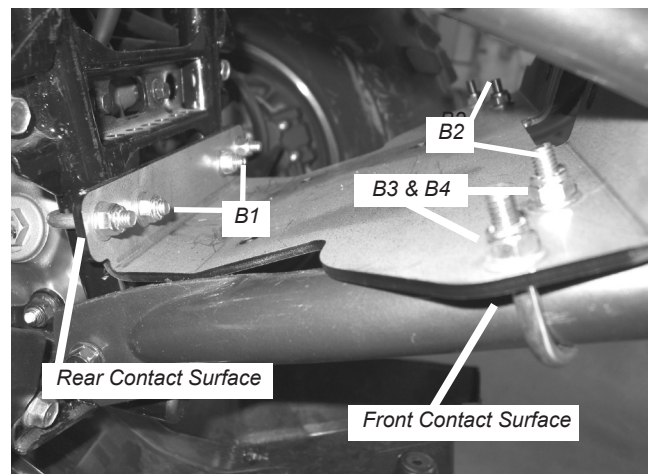
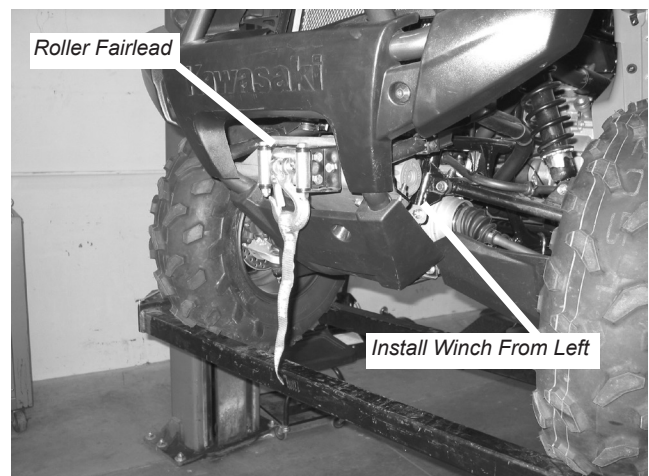

Figure 5 Fasten Winch Mounting Plate
Figure 6 Install Winch and Roller Fairlead
5. Attach the mounting plate (A1) by sliding the supplied 5/16" U-bolts (B1) and (B2) around the tubes and through the plate, Figure 5. Fasten the U-bolts with the supplied washers (B3) and nuts (B4), ensuring that the plate sits flush against the front and rear contact surfaces. Tighten securely, but do not overtighten.
**Note:** For 2008 and later model years B2 u-bolt will be replaced with an additional quantity (2) of B1 u-bolt; (Frame tube size is smaller on 2008 and later model years and smaller u-bolt allows for a more secure fit to frame).
6. Install winch from the left side of the vehicle, as sitting on the vehicle, Figure 6. Fasten winch with hardware supplied with the winch. Mount the winch so that the motor faces the right side of the vehicle. Tighten the bolts to a recommended torque of 17 N-m (12 ft-lb).
Also attach roller fairlead to the winch mounting plate, Figure 6, using two hardware provided in the winch kit. See instructions included in winch kit for recommended torque.